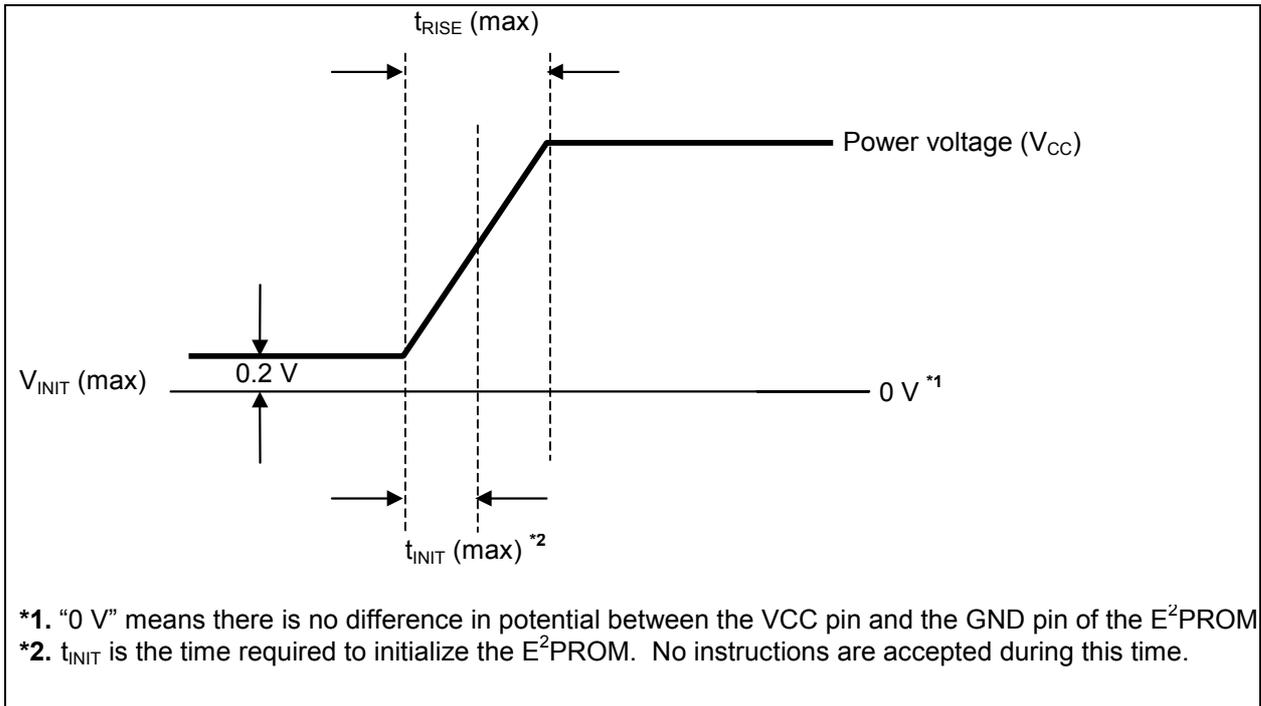
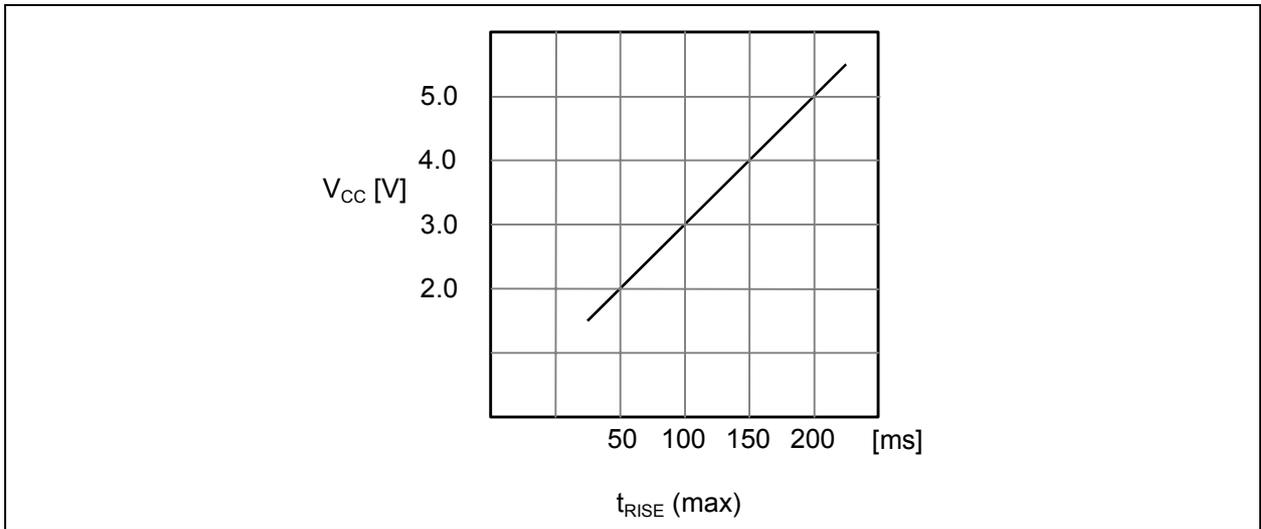

Figure 5. Increase of the supply voltage
Figure 6. V_{CC} vs. $t_{RISE} (max.)$
Starting at a maximum of 0.2 V as shown in Figure 5, increase the supply voltage to your operating value within the time frame t_{RISE} . *Note that the value of t_{RISE} will change depending on your operating voltage.* (Refer to Figure 6.)
- t_{RISE} = 200 ms (from Figure 6),
- increase the V_{CC} to 5.0 V within 200 ms. (Refer to Figure 5.)